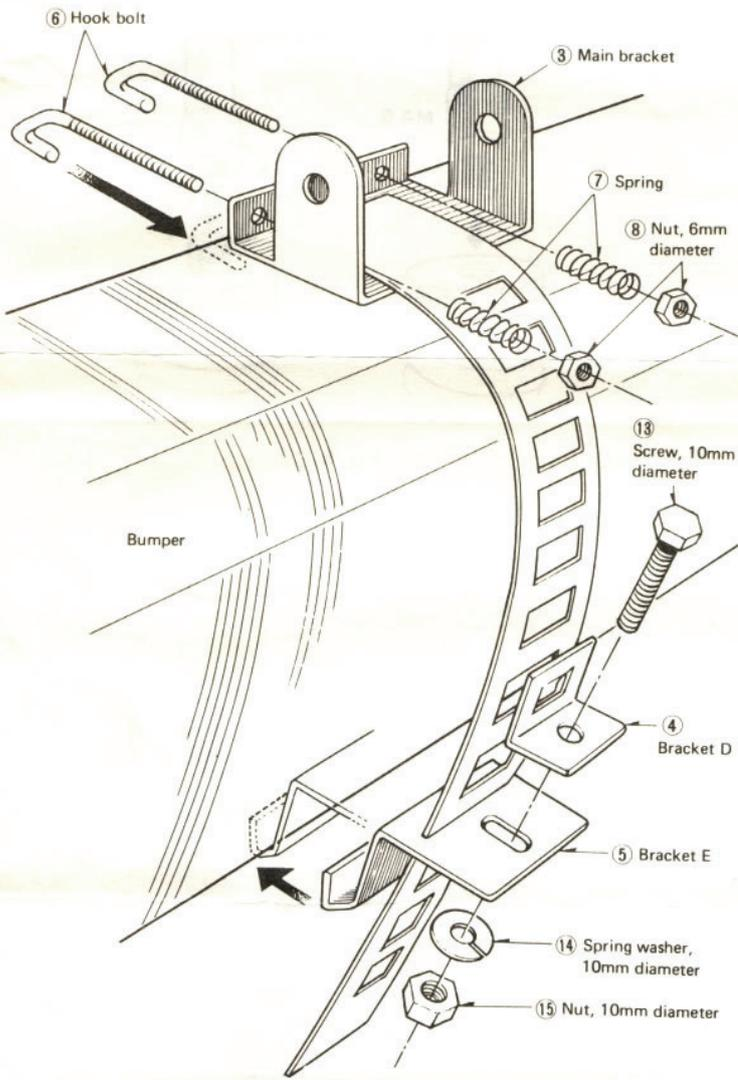

Fig. 2
### 1. Main Bracket (see Fig. 2)
- Insert the two hook bolts(6) into the main bracket and assemble with the spring(7) and nut(8).
- Attach the hook bolts(6) to the upper side of the bumper.
- Assemble the bracket E(5) with the main bracket as shown in Fig. 2 and hook it on the lower side of the bumper.
- Hook the bracket D(4) properly on the main bracket and secure the bracket E with the screw (13), spring washer (14) and nut(15).